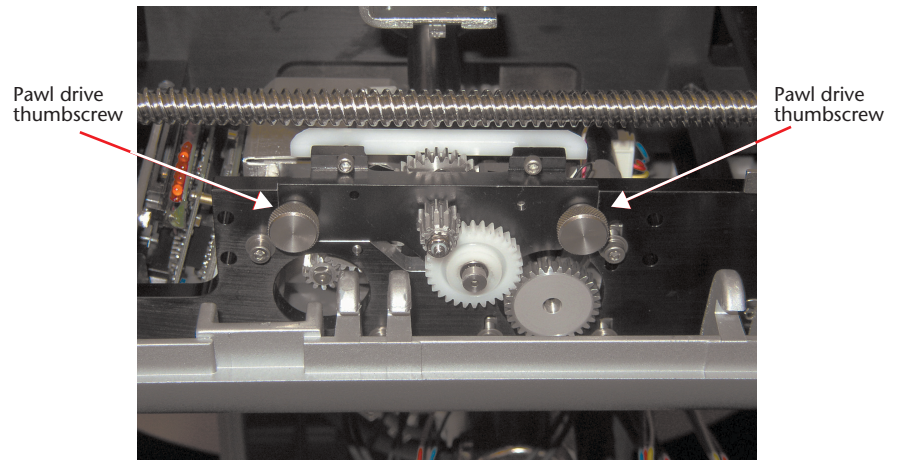

Fig. 18: Pawl drive front.
6. Remove the two thumbscrews on either side of the pawl drive front plate (Fig. 18).